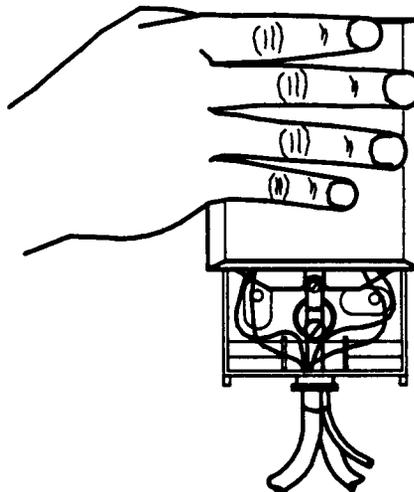

Figure 7. Removing Cover of B Customer Service Closure
- (1) Remove the cover of the B customer service closure by cutting the cable ties, spreading the lower-rear corners of the cover, and lifting upward (Figure 7). Verify that the B base is securely mounted to the wall.